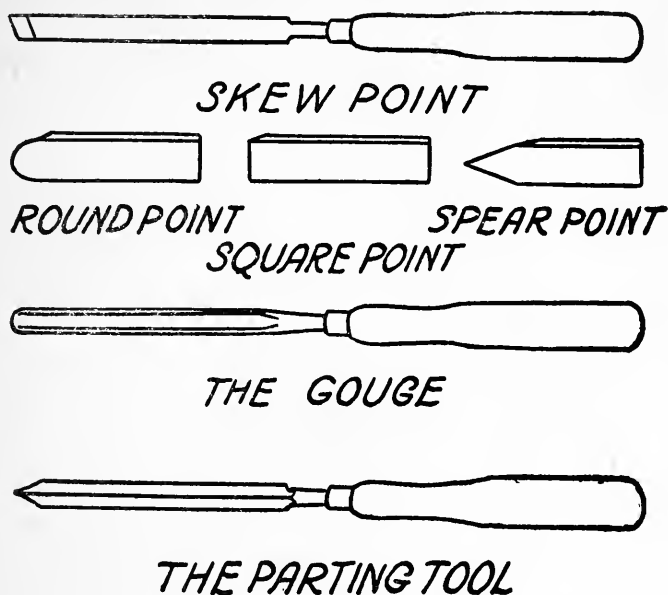

FIG. 18. A SET OF WOOD TURNING TOOLS
Turning Tools for Wood.— The tools used for turning wood¹³ are simply chisels and gouges. The chisels are made with four kinds of points, namely, (1) *skew point*; (2) *round point*; (3) *square point*, and (4) *spear point*, and these are shown in Fig 18. These chisels can be bought in all sizes from $\frac{1}{4}$ inch to 1 inch wide.
Gouges also come in sizes from $\frac{1}{4}$ inch up to 1 inch, and a *parting tool*, which is used to cut off a turned piece and which is simply a V shaped chisel, can be had in $\frac{1}{2}$, $\frac{5}{8}$ and $\frac{3}{4}$ inch sizes. These turning tools are also shown in Fig. 18. You can buy them fitted with applewood handles and sharpened ready for use for about 50 cents apiece. You can buy them of hard-